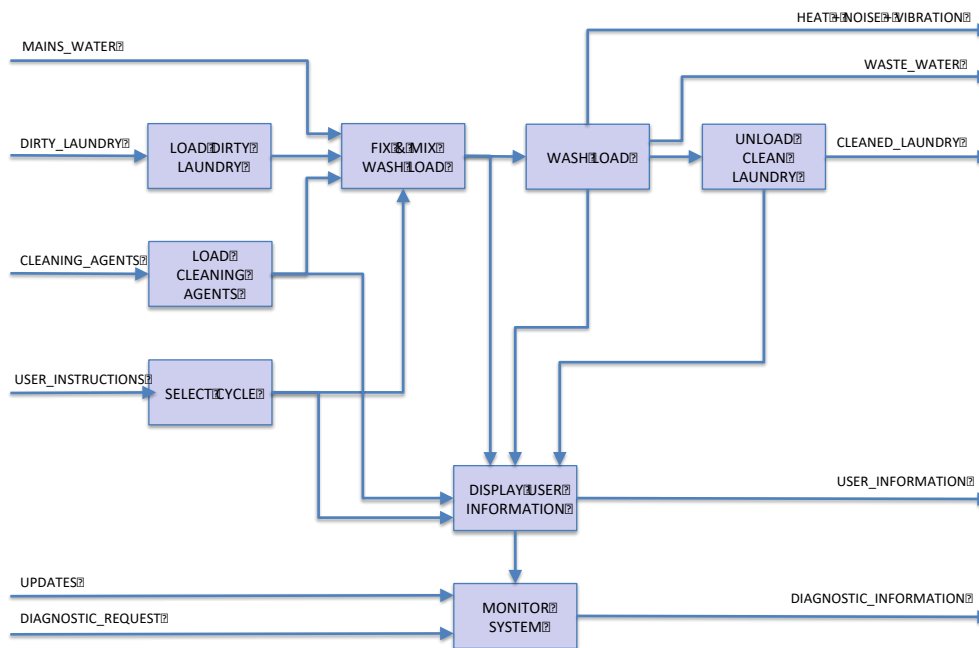

Figure 1: A Sequence Diagram for a Domestic Automatic Washing Machine
A Sequence Diagram¹ is a schematic model of the system of interest that defines the sequence of activities, functions or process steps that convert the inputs into the outputs. It allows a team or an individual to produce a high-level diagram of an existing or planned system that not only defines the boundary of the system of interest but the necessary internal system functionality. Figure 1 shows a Sequence Diagram for a domestic Automatic Washing Machine.
In Figure 1 time flows from left to right and therefore the inputs are on the left hand side and the outputs on the right. The grey boxes are the functions/activities of the system. The connecting arrows show how the basic functionality has to logically cooperate in order to transform the system inputs into the system outputs. In this case dirty laundry into cleaned laundry.
It is also very important when starting to construct a Sequence Diagram that the team understand the context of the problem, particularly that related to the lifecycle phase. For any System of Interest it is often possible to construct a variety of Sequence Diagrams for different points in time. Figure 1, for example, shows an installed domestic automatic washing machine doing its day-by-day activity; i.e. washing dirty cloths. In other words, it shows the operational phase of the system’s life cycle. It is possible to construct other lifecycle views such as installing or repairing a washing machine. The fact we can view any system from many different perspectives is important to recognise when constructing a Sequence Diagram. It is essential that the perspective is defined clearly and everybody in the team is clear what view is being taken. Some projects may demand that we capture several perspectives. In such instances, it is recommended to start with the day-to-day operation of the System of Interest and then consider the other views later.
- The initial drafting of a Sequence Diagram should consider every possible input and output. This often results in a very “busy” diagram and there is a tendency to either ignore inputs or outputs because they are considered not important. It is preferable to capture all these and rationalise and simplify the diagram later. Indeed, having captured all the inputs and outputs the diagram can be simplified by collecting similar inputs or outputs together and creating a collective-name that can be captured in the system dictionary. For example, the washing machine shown in Figure 1 has the input labeled “CLEANING_AGENTS”. This is a grouped input comprising detergent, fabric softener, water softener, stain removers, bleach and or dye stuff. But do keep a dictionary to record any definitions of any inputs or outputs. For example CLEANING_AGENTS can be defined in the dictionary as